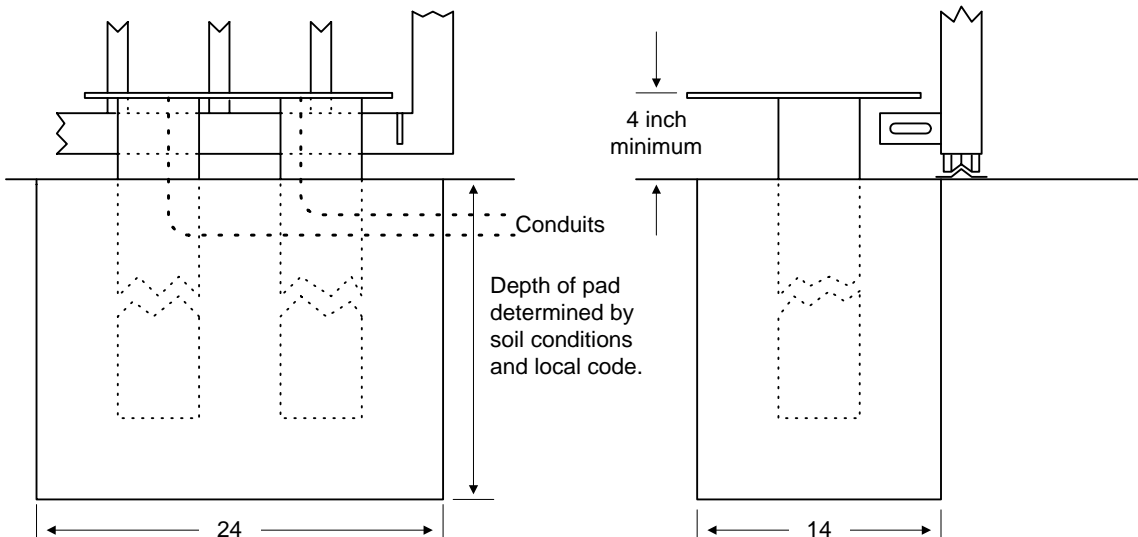

Figure 8
2. After the posts have been welded to the base plate to form the mounting plate assembly, construct a form for the assembly, according to the specifications in figure 8.
3. Position the mounting plate assembly into the form. Be sure that the base plate is a minimum of four (4) inches above ground level. Set conduits, reinforcing bars and/or wire mesh if required. The number of conduits is determined by the application requirements. We suggest using a minimum of four (4) conduits. 1-High voltage power lines; 2-Low voltage control lines; 3-Loop lead-in wires (open loop); 4-Loop lead-in wires (reverse loops). **See SECTION 2.** Set additional conduits as required for your application. NOTE: If conduits are not set in the pad, they can be routed to a J box where connections to the operator can be made after it is installed. There are three (3) ½-inch knockouts and one (1) ¾-inch knockout on each side of the operator for this purpose. **IMPORTANT!! Be sure that the mounting plate is level and parallel with the gate.**